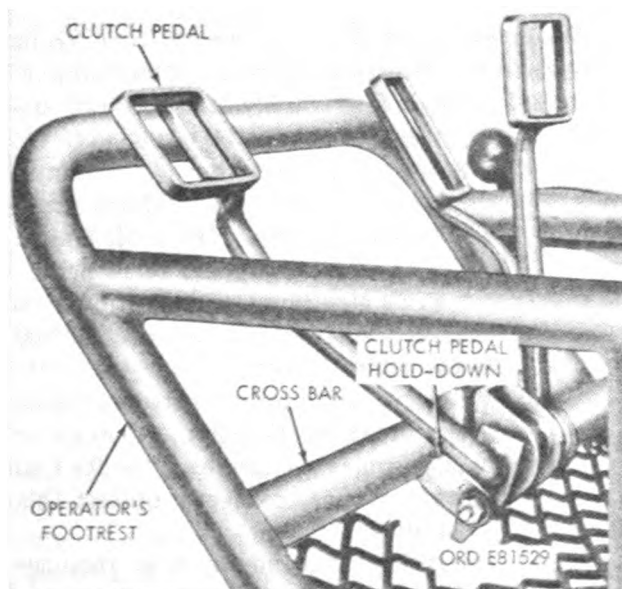

Figure 2-38. Clutch pedal holddown holding clutch pedal in released position.
- (1) Before starting engine, with temperature below 32°F., close louvers on engine fan assembly. Refer to paragraph 2-4q.
- (2) Depress clutch pedal and position clutch pedal holddown against operator's footrest crossbar as shown in figure 2-38. The holddown will hold clutch pedal in released position and disengage engine from transmission to improve starting ease during cold weather.